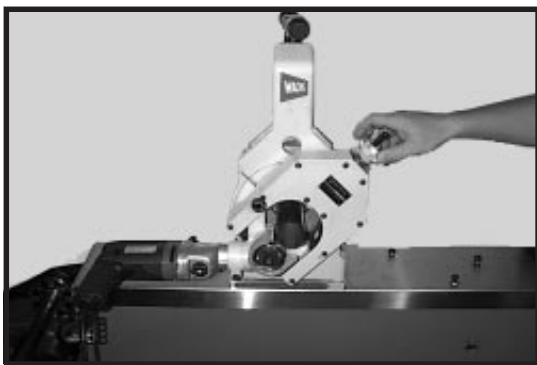

Figure 6
3. Rotate cutter depth knob until blade penetrates workpiece I.D. by 1/16". (Figure 6)